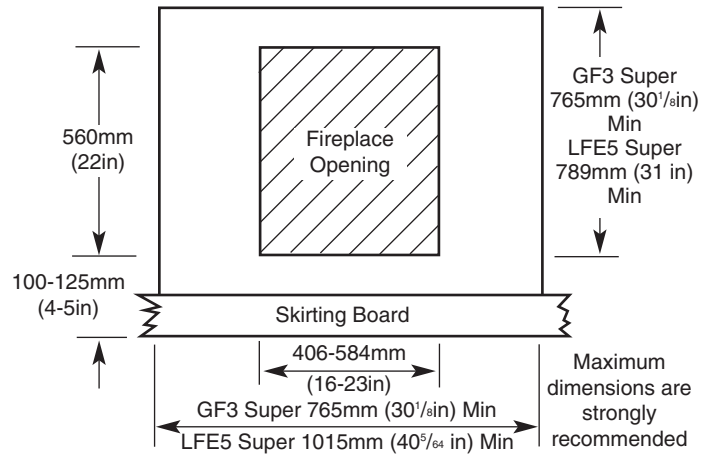

Fig. 2 Wall Fixing
**Wall Fixing:** (Fig.2) The bottom of the fire must be 100mm (4in) to 125mm (5in) above the floor level.